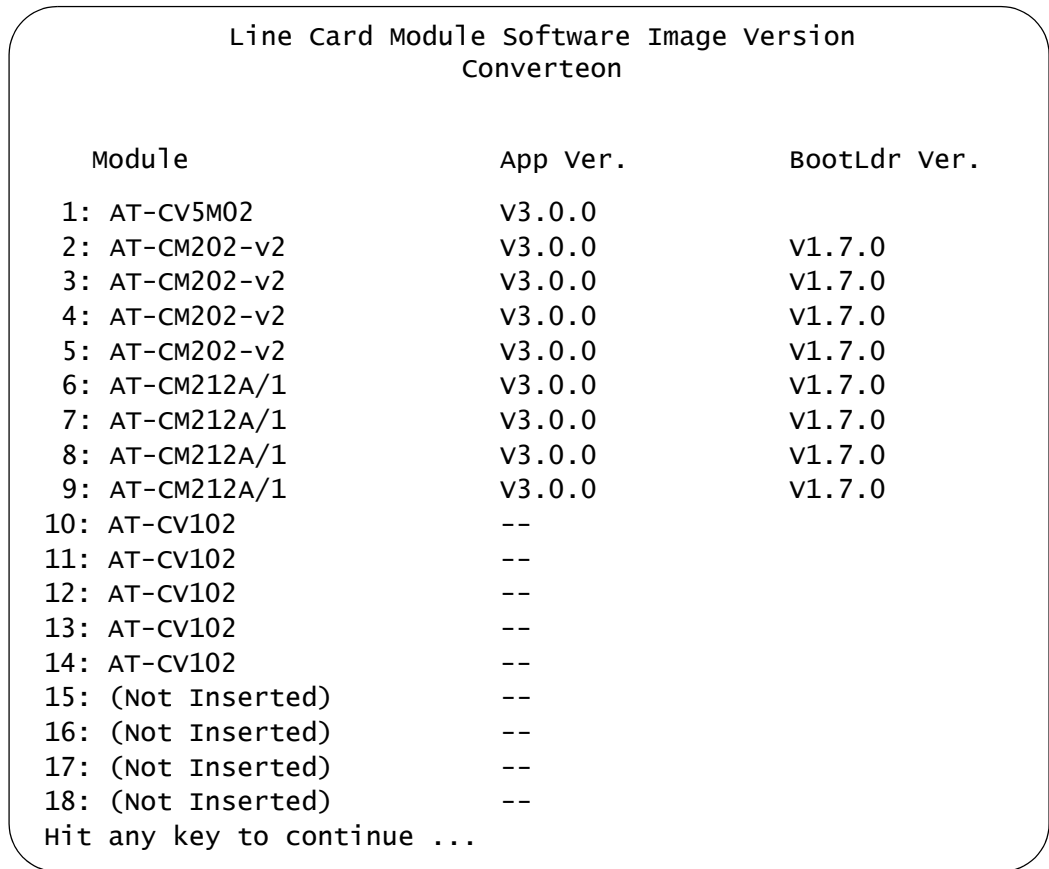

Figure 69. Line Card Module Software Image Version Window
- From the Diagnostics Menu, select **Line Card Image Version**. An example of the Line Card Module Software Image Version window is shown in Figure 69. This window is for viewing purposes only.